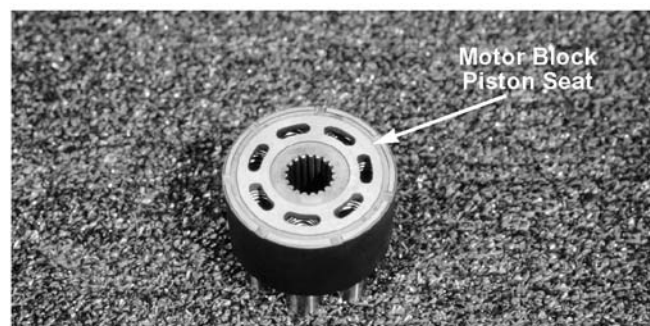

Figure 6-142
20. Inspect the motor block, piston seat areas, running surface, and splines for excessive wear or damage. See Figure 6-142